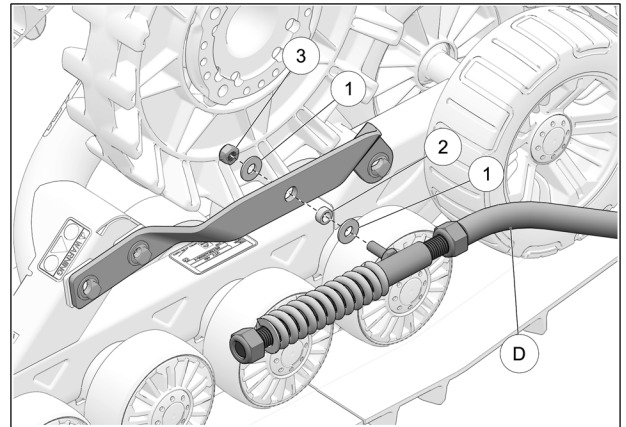

Fig. 9
9. Attach the rear suspension stabilizing rod (**D**) to the undercarriage bracket using washers (**1**), bushing (**2**) and nut (**3**). See Fig. 9